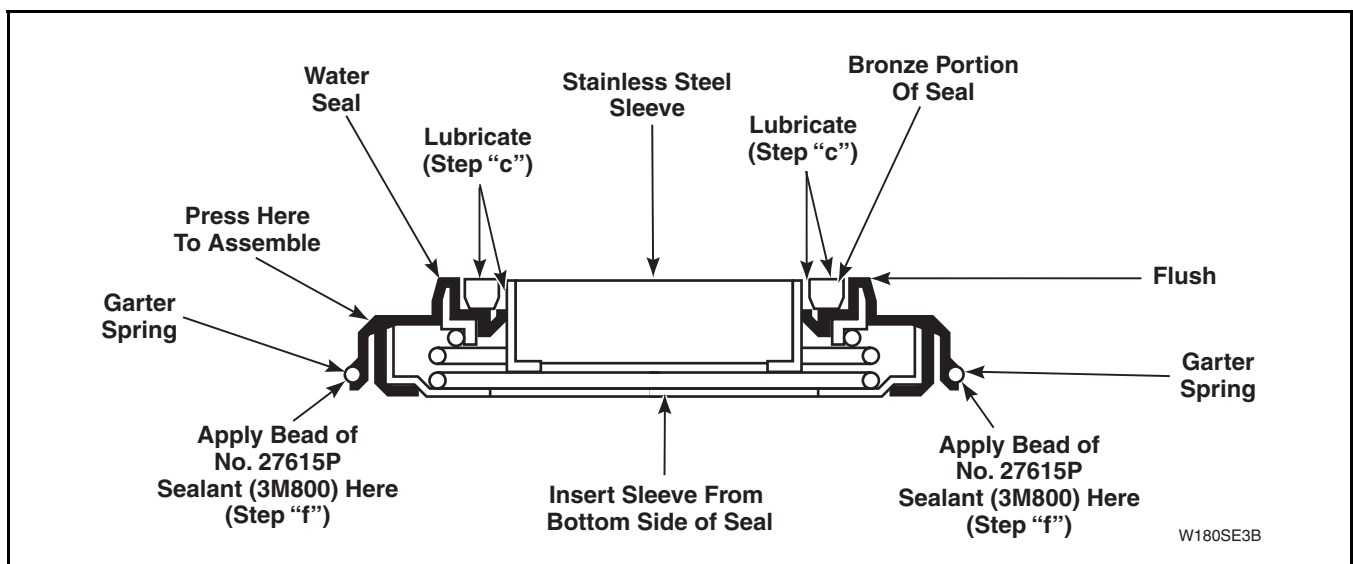

Figure 38
- c. Apply a light film of nonstaining petroleum jelly (such as Vaseline®) to bronze portion of water seal and to outer surface of stainless steel sleeve. Refer to *Figure 38*.
- d. Insert stainless steel sleeve into water seal from bottom of water seal until stainless steel sleeve is flush with bronze portion of water seal. Refer to *Figure 38*.
- f. Carefully apply a small amount of No. 27615P Sealant (3M800) (not supplied with kit) around outer edge of water seal and tub (area located just below garter spring). Refer to *Figure 38*.